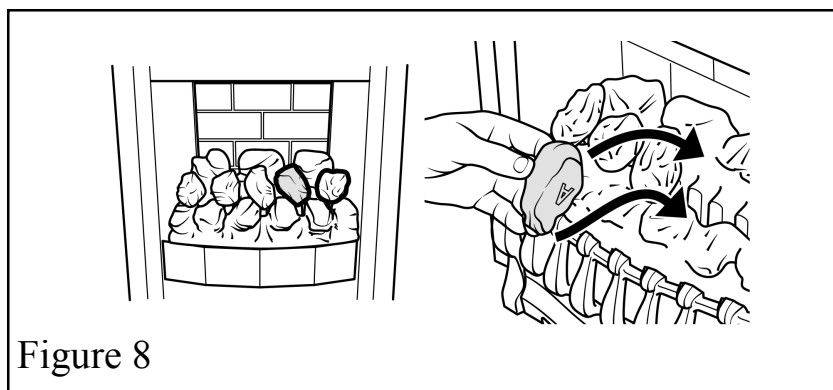

Figure 8
10. Place the remaining type “A” coal between the front and rear base coals. The letter “A” should be upside down with its rear face between the right and centre coals of the rear base coal. Angle the coal so that the gap between it and the type “B” coal to its right is appreciably larger than the gap between it and the type “A” coal to its left but do not have it touching the type “A” coal. This will give the best flame effect. See figure 8.